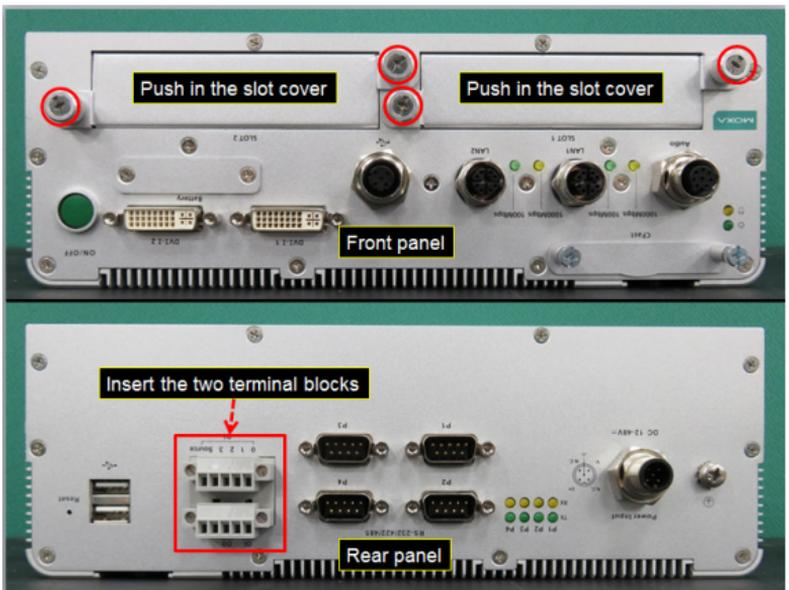

Figure 37
4.4.6 Push in the expansion slot covers on the front panel and use a Philips screwdriver to tighten the four (4) screws on the expansion slot covers as shown in Figure 37. Insert the two terminal blocks on the rear panel.